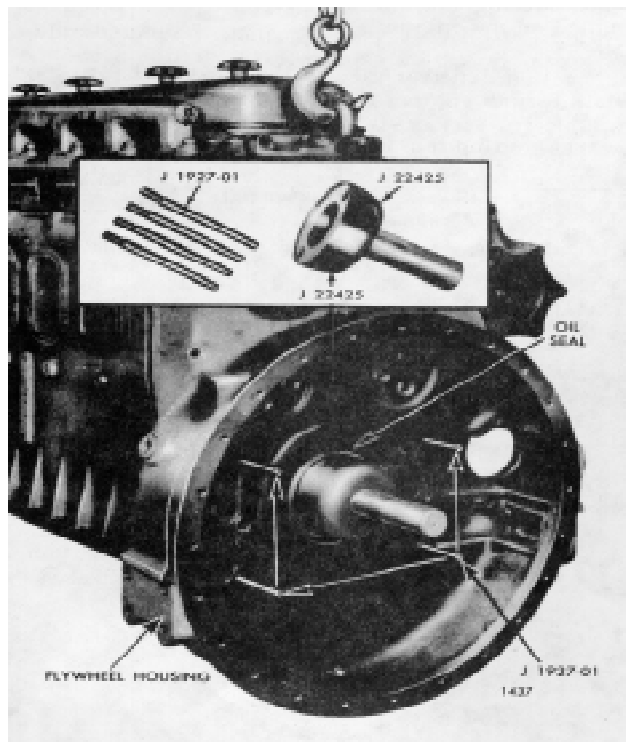

Fig. 2 - Remove or Installing Flywheel Housing
5. To guide the flywheel housing until it clears the end of the crankshaft, thread four pilot studs J 1927-01 into the cylinder block (Fig. 2).
4. Thread four pilot studs J 1927-01 into the cylinder block to guide the housing in place (Fig. 2). Use oil seal expander J 22425 (standard size seal) or expander J 4195 and handle J 8092 (oversize seal) on the end of the crankshaft to pilot the oil seal on the crankshaft.